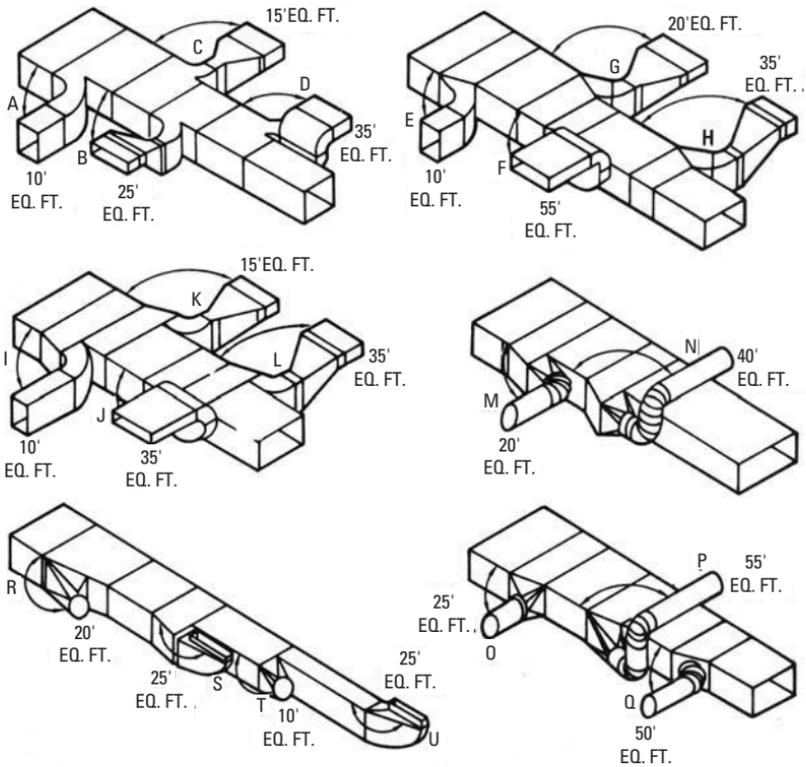

Figure 7-9 Trunk duct takeoff. (Courtesy ASHRAE 1952 Guide)
- Plenum and extended plenum takeoffs (see Figure 7-9)